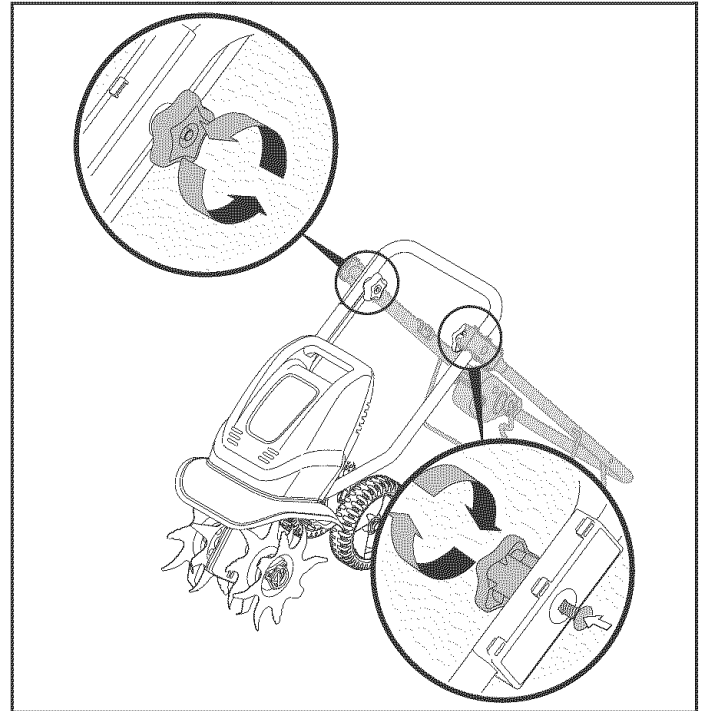

Fig. 1
1. Loosen each hand knob found on the inside of the upper handle (Fig. 1).